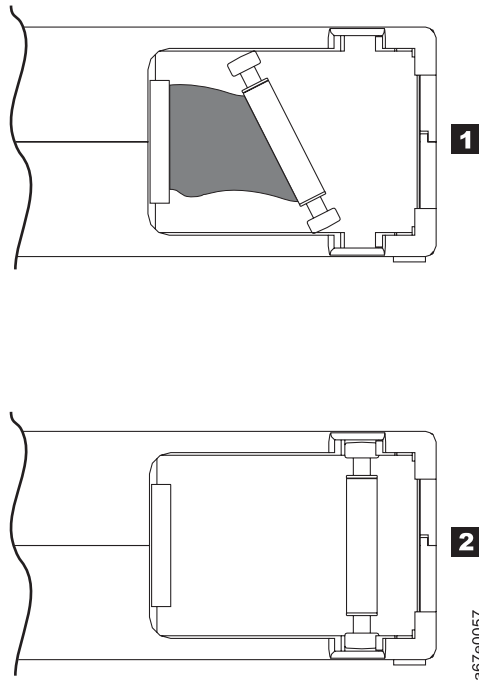

Figure 9-8. Leader pin in the incorrect and correct positions. The cartridge door is open and the leader pin is visible inside the cartridge.
- Check that the leader pin is properly seated (see **2** in Figure 9-8 on page 9-12).
- Do not drop the cartridge. If the cartridge drops, slide the cartridge door back and ensure that the leader pin is properly seated in the pin-retaining spring clips (see **2** in Figure 9-8 on page 9-12). If the leader pin has become dislodged, go to “Repositioning or Reattaching a Leader Pin” on page 9-11.
Example: Improper Placement of Leader Pin (see Figure 9-8 on page 9-12)
A leader pin that is improperly seated inside a cartridge can interfere with the operation of the drive. Figure 9-8 on page 9-12 shows a leader pin in the incorrect **1** and correct **2** positions.